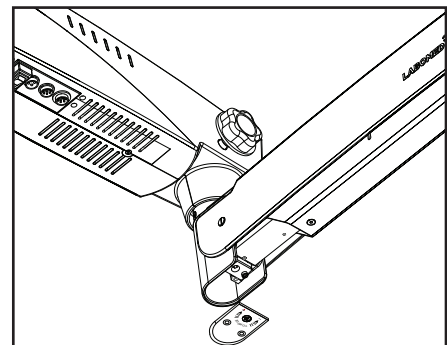

Fig 19
1. Remove the plate as shown by removing two screws (see Fig. 19).
5. Reinstall the plate shown in Fig. 19.